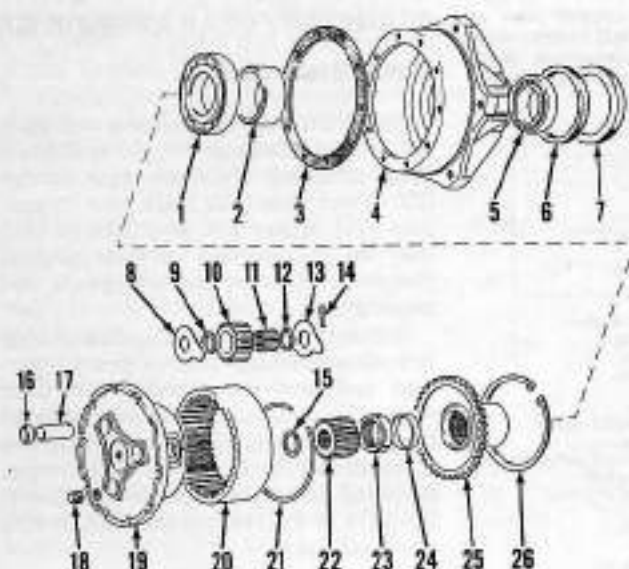

Fig. 19—Exploded view of Carraro front drive axle final drive assembly used on 1290, 1390 and 1490 models, showing component parts and their relative positions.
15. Raise and support side to be serviced and remove tire and wheel. Rotate hub (4—Fig. 19) until drain plug (18) is at bottom and drain fluid, 1.4 L (1.5 qts.). Remove bolts retaining end plate (19) to hub (4) and install two guide studs opposite each other in hub. Remove end plate (19). Remove snap ring (15) and sun gear (22). Attach a chain hoist to hub.
20. Model 1490 Carraro axles are equipped with ball bearing type axle bearings and preload is controlled by spacers (2 and 24—Fig. 19).